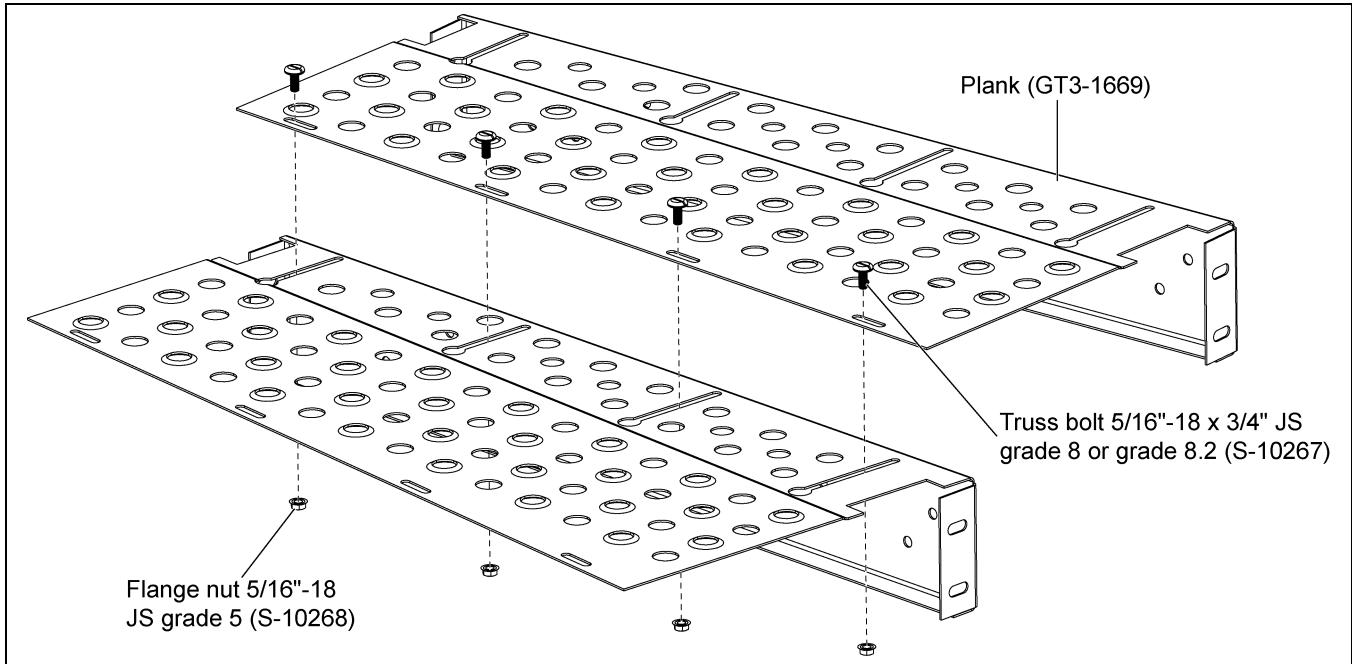
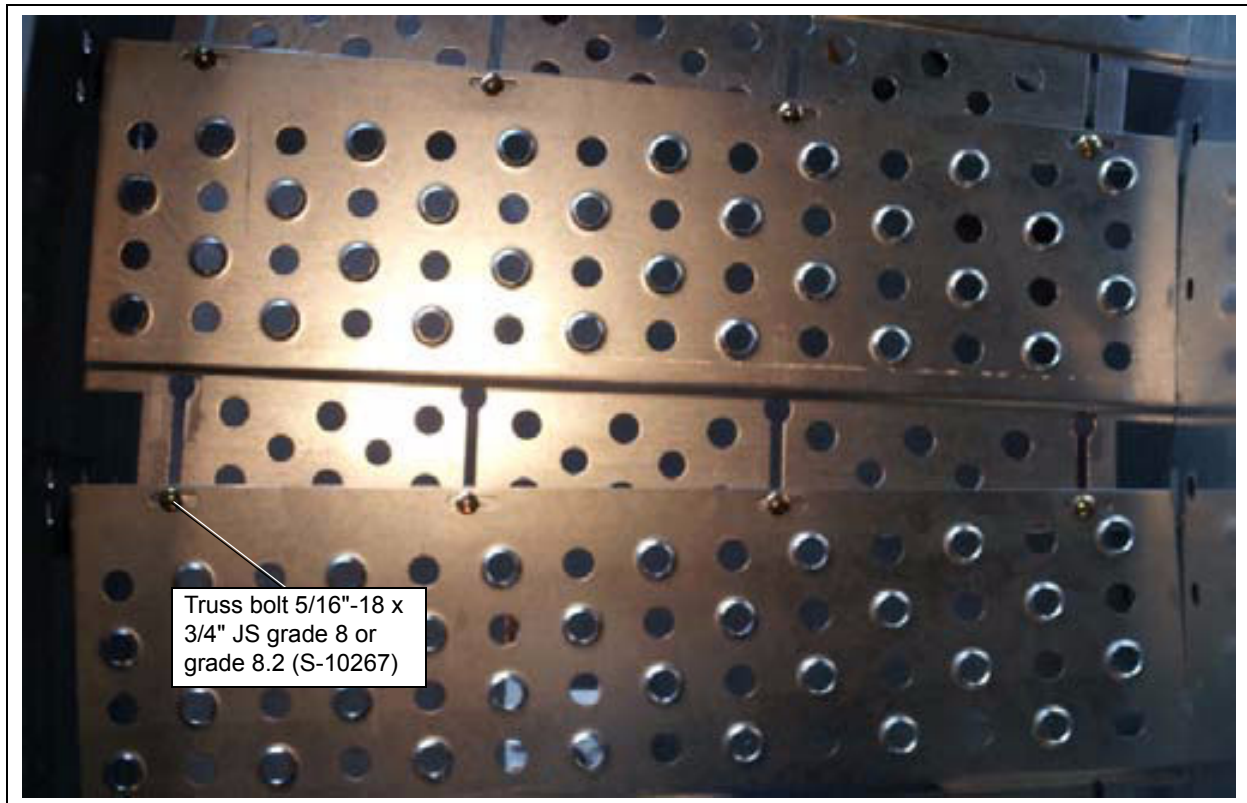

Figure 4M
Figure 4N
5. Each plank should be overlapped at the edges and bolted with 5/16"-18 x 3/4" JS grade 8 or grade 8.2 bolts (S-10267) and 5/16"-18 JS grade 5 nuts (S-10268). (See Figure 4M and Figure 4N.)